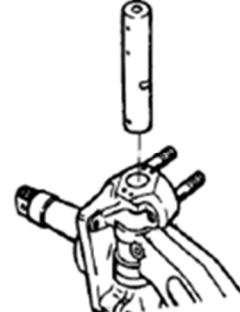

Figure 3-28.
- 5) Installing the swivel axis, adjusting the position (Figure 3-28).